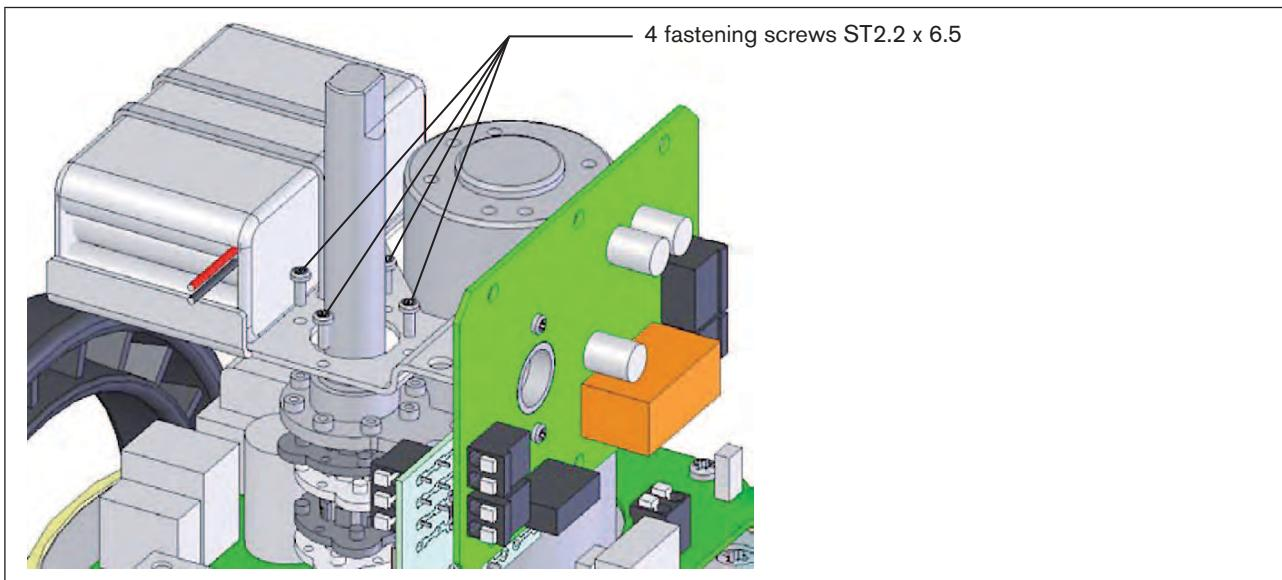

Figure 29: Illustration: installation of safety block into the actuator drive
- Fasten the safety block of the emergency current model onto the actuator drive with 4 (see illustration "Figure 29").